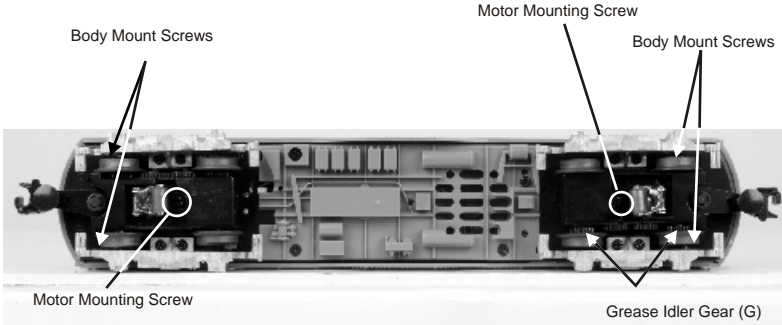

Figure 3. Body Removal Screw Locations
1. To access the gear box, remove the cab from the chassis by unscrewing the body mount screws as seen in Figure 3 and lifting the cab from the chassis.
2. Once the cab is removed, remove the trucks by unscrewing the black Phillips motor mount screw located on the underside of the drive trucks (see Fig. 3).